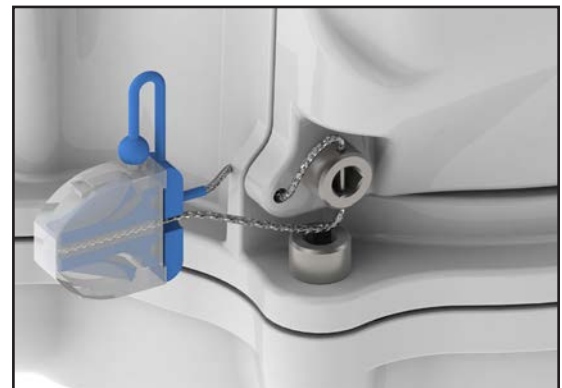

Figure 9. Tamper evident seal
- Thread the wire end through the security hole near the battery cover and through the hole in the screw as shown in Figure 9.